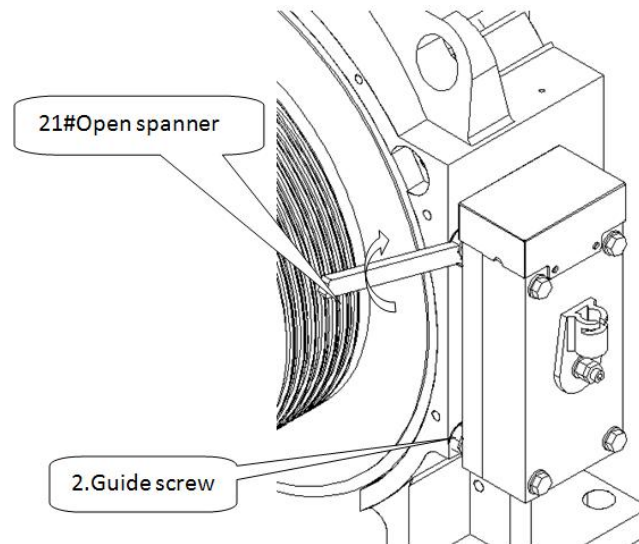

Fig. 1.5
d) Rotate 4 guide screws clockwise head to the center of base and make it depend on the base installing surface tightly. Refer to fig.1.5.
b) Rotate 4 guide screws clockwise head to the center of base and make it depend on the base installing surface tightly. Refer to fig. 1.5.
- a) Check if the guide screw depend on the machine base surface tightly. If not, please rotate the guide screw clockwise by 21# open spanner and make it depend on the base surface tightly. Refer to fig.1.5.
- b) If the guide screw has already depend on the machine base surface tightly, please loosen the four installing bolts counterclockwise, then rotate the guide screw clockwise and make it depend on the machine base surface tightly, at last, lock the four installing bolts with torque spanner. Refer to fig.1.5.